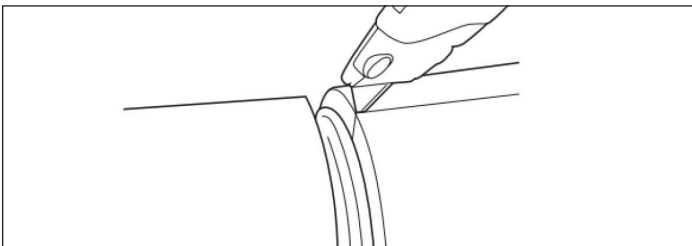

Figure: 1-4
7. Carefully cut the jacket longitudinally with a sharp utility knife for ease of removal. Do not score the TracPipe System tubing (Figure 1-4).